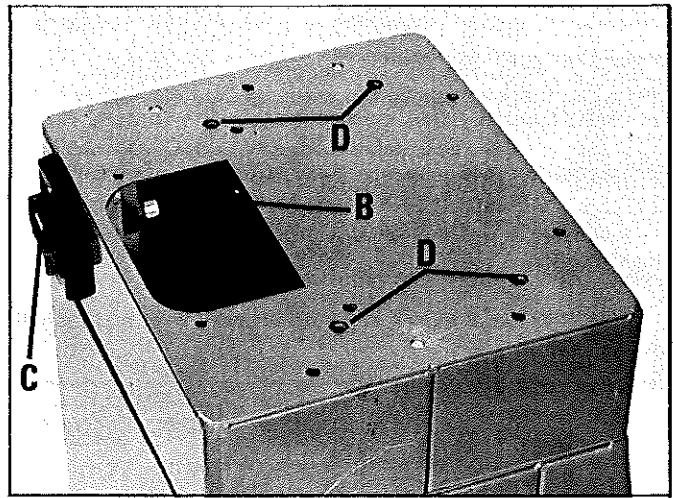

Fig. 4
Place the machine on the stand with the arbor pulley over the opening (B) Fig. 4, on the top of the stand. The drive belt is shipped on the arbor pulley of the machine and must be inserted down through the opening (B). The disc end of the machine is to be positioned on the same end of the stand that the switch (C) Fig. 4, is located. Fasten the base of the machine to the four threaded holes (D) Fig. 4, on the top of the stand using the four 3/8 – 16 x 3" long hex head screws and the four flat washers supplied.